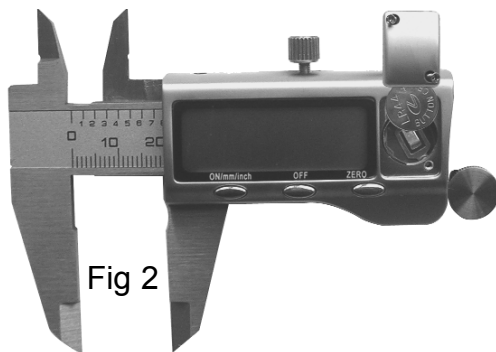

Fig 2
- 4.1.1. Lift off the battery cover (fig 2) after removing the two screws.